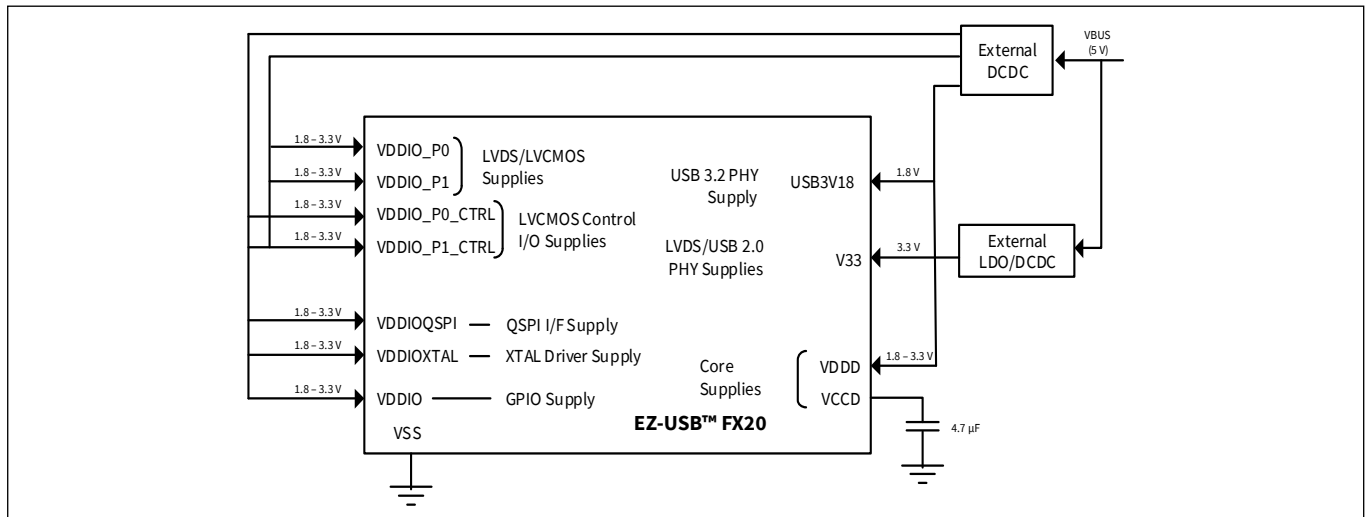

Figure 7 Power system requirement block diagram
Figure 7 shows the power system requirements for power pins for all supported packages.
8. The power specification includes the total power consumed by all the rails (see Figure 7).